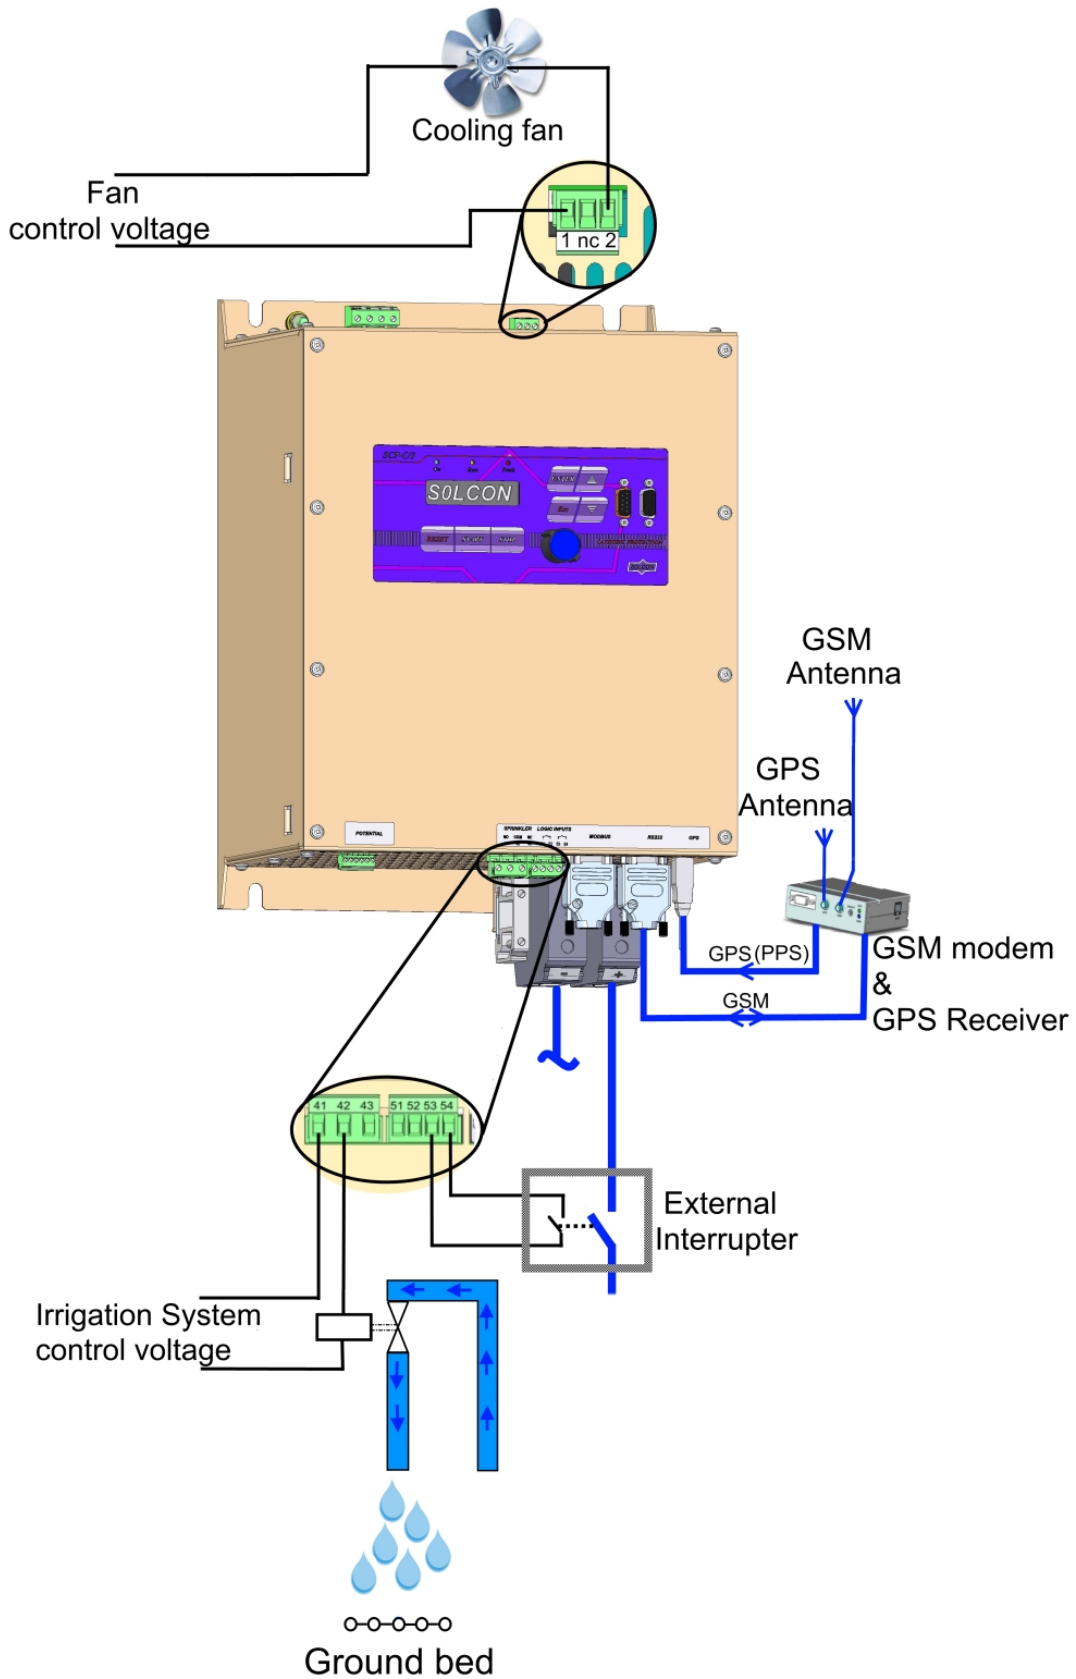

Figure 13 – Auxiliaries Connection Diagram of the SCP-C
- Power Supply cooling fans can be connected as shown in Figure 13 page 24.
- Irrigation system control, GSM Modem & GPS Receiver, are connected to the Site-Master. Terminals/connectors indications (Terminals numbers etc.) are the same as of the SCP-C unit as shown in Figure 13 page 24.